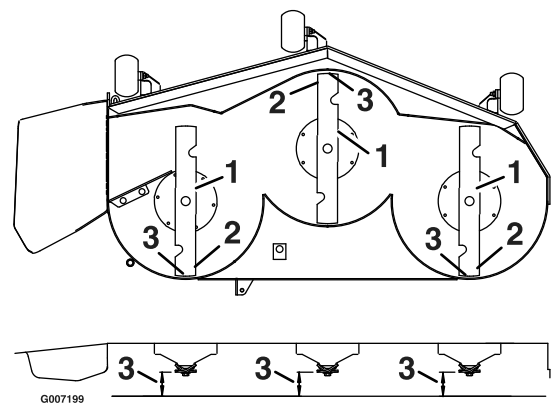

Figure 58
4. Carefully rotate the blades so they are facing front to rear (Figure 58).
5. Measure from the tip of the front blade to the flat surface and the tip of the rear blade to the flat surface (Figure 58).